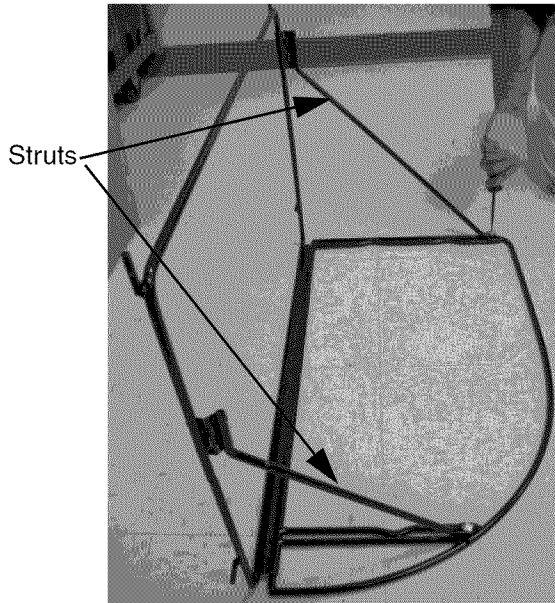

Figure 3
2. Using (2) 1/4-20 x 5/8 Pan Head Screws [J] and 2 Internal Tooth Washers [I], attach two Struts [A] into frame as shown below in Figure 3.